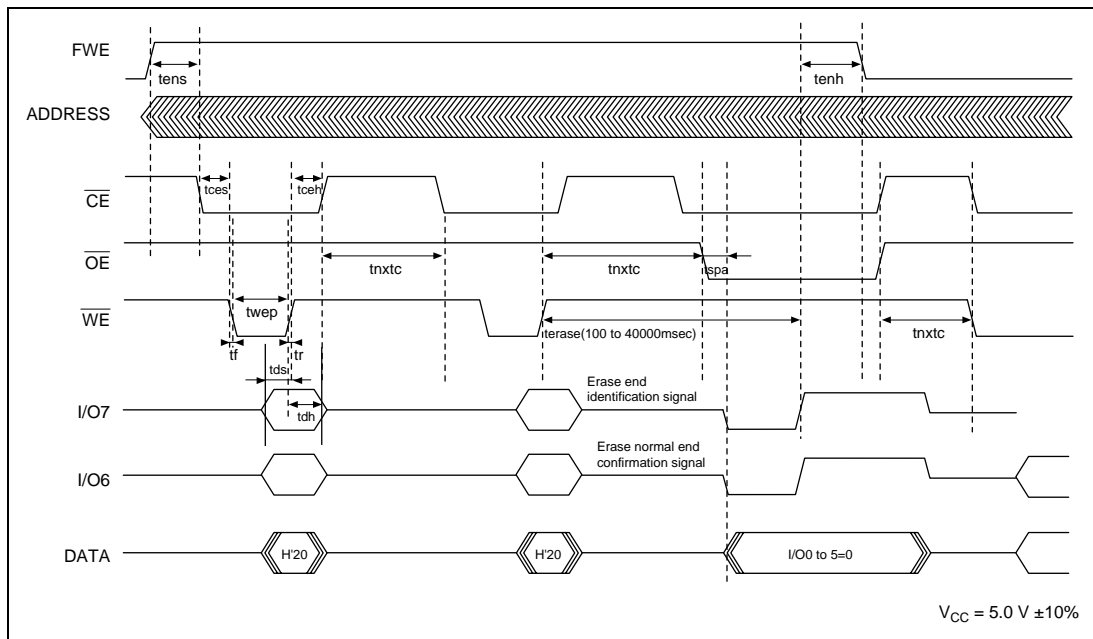

Figure 20-20 Auto-Erase Mode Timing Waveforms
Figure 20-20 shows the timing waveforms in auto-program mode
- (1) In auto-program mode, 128 bytes are programmed simultaneously. This should be carried out by executing 128 consecutive byte transfers.
- (2) A 128-byte data transfer is necessary even when programming fewer than 128 bytes. In this case, H'FF data must be written to the extra addresses.
- (3) If a value other than an effective address is input, processing will switch to a memory write operation but a write error will be flagged.
- (4) Memory address transfer is performed in the second cycle (figure 20-20). Do not perform transfer after the second cycle.
- (5) Do not perform a command write during a programming operation.
- (6) Perform one auto-programming operation for a 128-byte block for each address. Characteristics are not guaranteed for two or more programming operations.
- (7) Confirm normal end of auto-programming by checking I/O6. Alternatively, status read mode can also be used for this purpose.